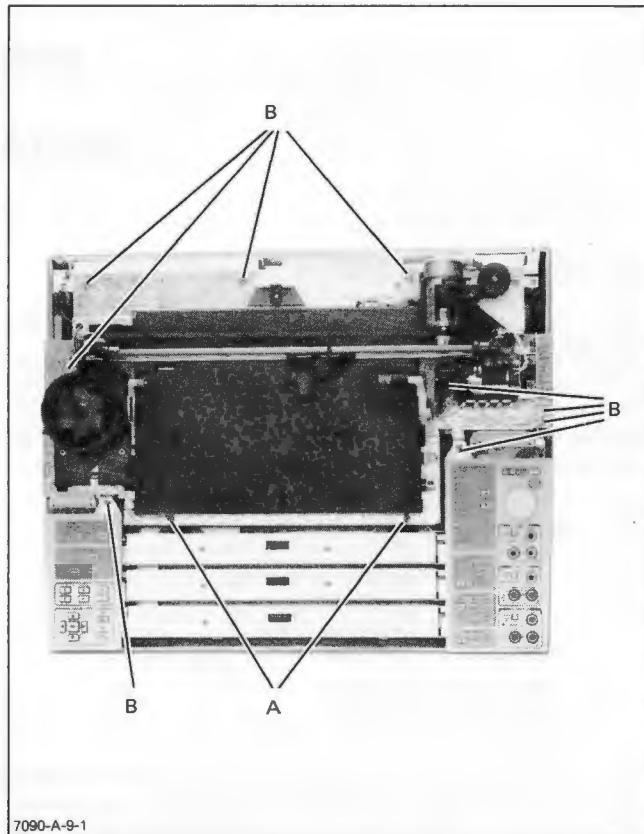

Figure 2-3. Chassis Base Removal
- e. See Figure 2-3. Loosen the two screws labeled "A". Remove the nine screws labeled "B".